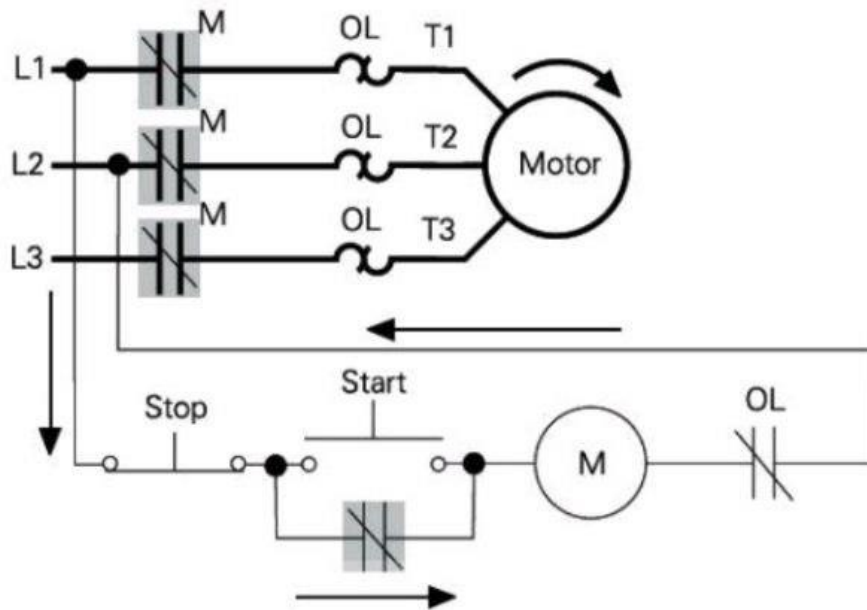
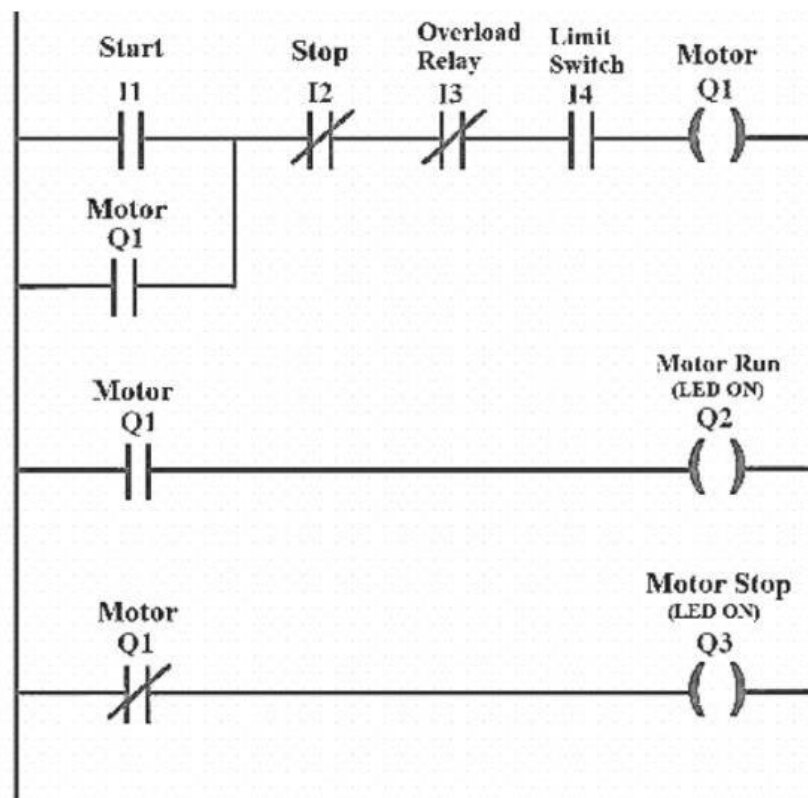

Fig. 1 Motor Starter
Fig.2 Ladder diagram for Motor starter
Figure 1 shows the physical layout of motor starter however this would be designed through ladder logic in this experiment.
The figure does not show limit switch because it depends on external interlock like say level switch, flow switch, pressure switch...etc depending on application. Figure 2 shows the ladder diagram for motor starter. 2 •
1) normally open contact (Make contact) is used because the motor should only start when the button is pressed. Fig. 1 Motor Starter Fig. 2 Ladder diagram for Motor starter 3 •
- 1) Connect the circuit in figure 1 and wire the plc.
- 2) Write the ladder for step 1, which is shown in figure 2 and upload it to the plc.